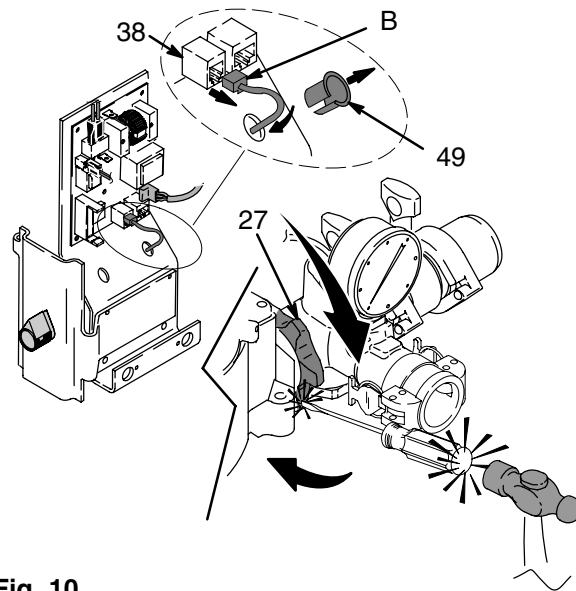

Fig. 10
4. Release hopper quick-release clamp (28).
5. Disconnect pump module (A) from frame (35).
6. Remove five screws (12 ) and motor cover (18).
7. Fig. 10. Disconnect transducer connector (B) from control board (38). Pull strain relief from bracket. Thread transducer connector through bracket.
9. Pry retaining spring (76) up on connecting rod (45). Push pin (75) out with a screwdriver.
10. Fig. 10. Loosen retaining nut (27).
3. Tighten retaining nut (27).
4. Push pin (75) in with a screwdriver. Push retaining spring (76) down on connecting rod (45).
5. Fig. 10. Connect transducer connector (B) to motor control board (38).